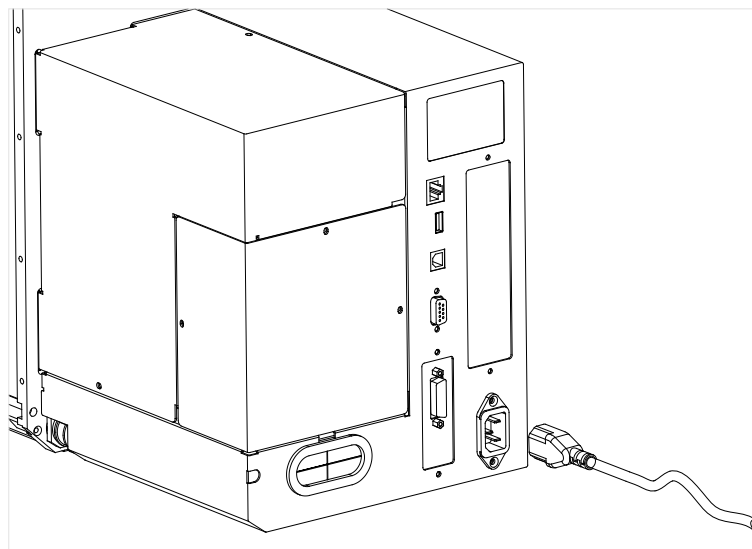

Figure 2-11 Connect the Power Cord
2. Plug the female end of the power cord into the AC Port on the back of the printer. See Figure 2-11.